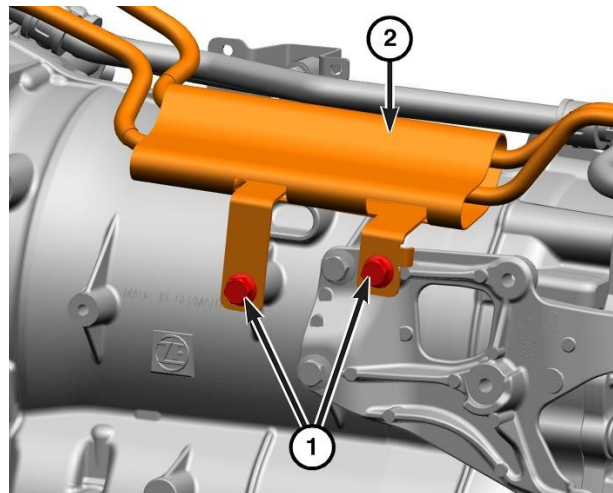

Figure 40 – Fuel Tube Bracket
52. Remove the fuel tube bracket fasteners (1) then let the bracket with tubes (2) hang freely (Figure 40).
84. Position the fuel tube bracket (2) then install the fasteners (1) and tighten to 11 N·m (8 Ft. Lbs.) (Figure 40).